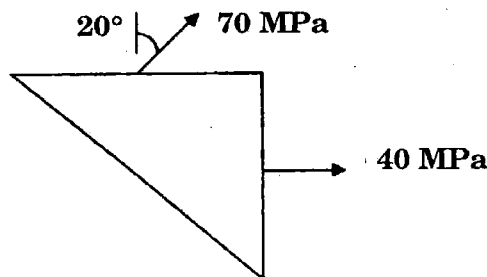

Figure 11(b)(i)
- (b) (i) A resultant tensile stress of 70 MPa is acting over as shown in the figure 11(b)(i). Another direct tensile stress of 40 MPa is acting over a plane, which is at right angle to the previous one. Find the resultant stresses in the second plane, the principle planes and stresses and the plane of maximum shear intensity. (8)